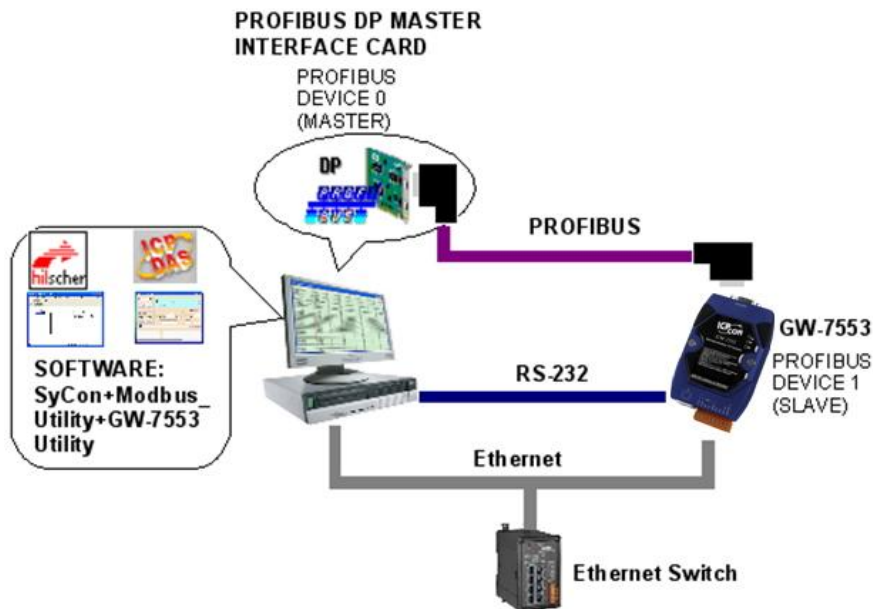

Figure 55 Wiring diagram between PC and GW-7553
Step 2: Connect GW-7553 and PC by *Figure 55*.